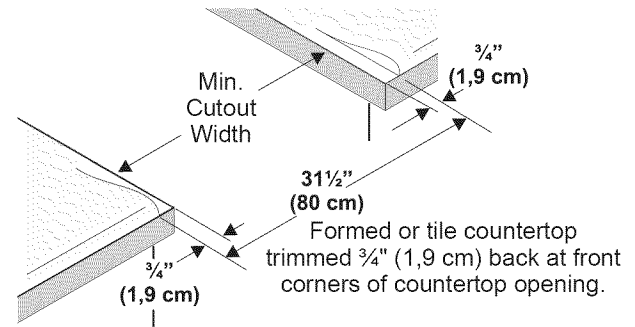

Figure 1
- Formed front-edged countertops must have molded edge shaved flat 3/4" (1,9 cm) from each front corner of opening (Figure 1).
- Tile countertops may need trim cut back 3/4" (1,9 cm) from each front corner and/or rounded edge flattened (Figure 1).